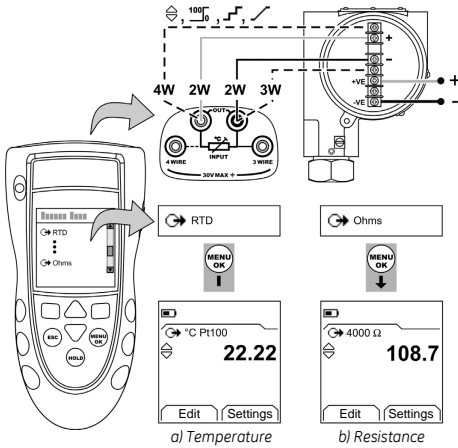

Figure 2: Example configuration - To simulate the temperature or resistance of an RTD
1. Connect the instrument (Figure 2) and, if necessary, adjust the Set Up (Table 1).